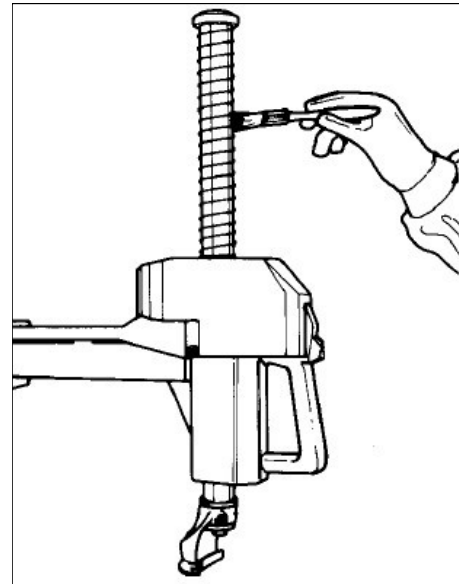

Fig. 33
- Keep the horizontal arm clean and lubricate it periodically to make it move smoothly. (Fig. 33)